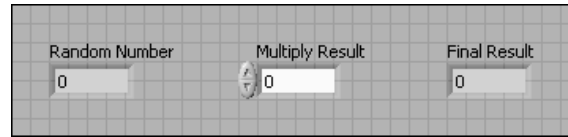

Figure 2.35
1. Select **File**»**Open** and navigate to **C:\Exercises\LabVIEW Basics I** to open the **Debug Exercise (Main) VI**. The front panel shown in Figure 2.35 appears.